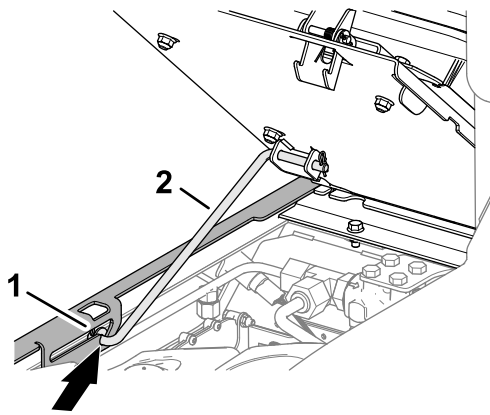

Figure 97
3. Ensure that the forward prop rod seats in the slot detent of the seat support (Figure 97).